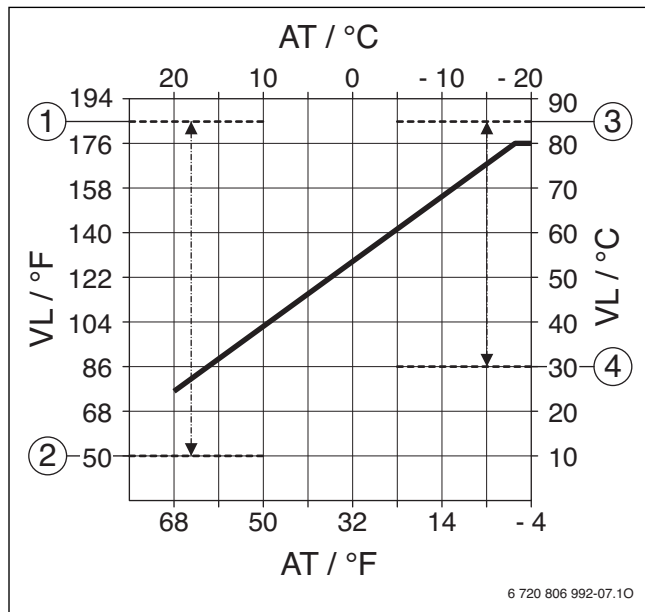

Fig. 64
- ▶ Set accordingly (→ Fig. 64).